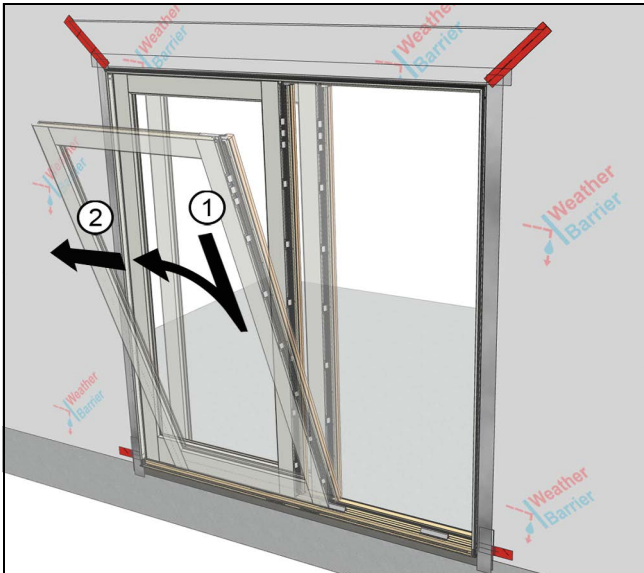

Figure 9
1. From the exterior, place the first panel (the one with the interior astragal) on the set of sill retainers. Tip the panel towards the interior and slide it towards the opposite side until the panel engages with the jamb retainers and sill retainer. See Figure 9.